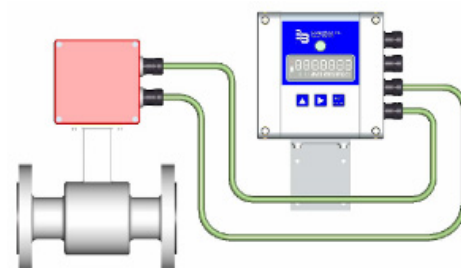

Figure 27: Cables in cable glands
2. Push both cables through two different cable glands as shown in Figure 27.